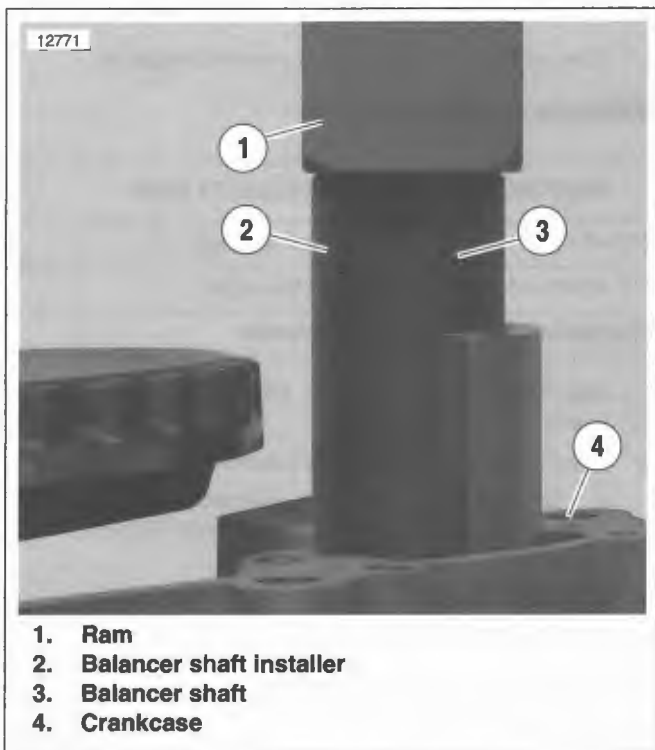

Figure 3-153. Balance Shaft Installation
- See Figure 3-153. Place balancer shaft (3) and bearing in crankcase (4).
- Place balancer shaft installer (2) over balancer shaft.